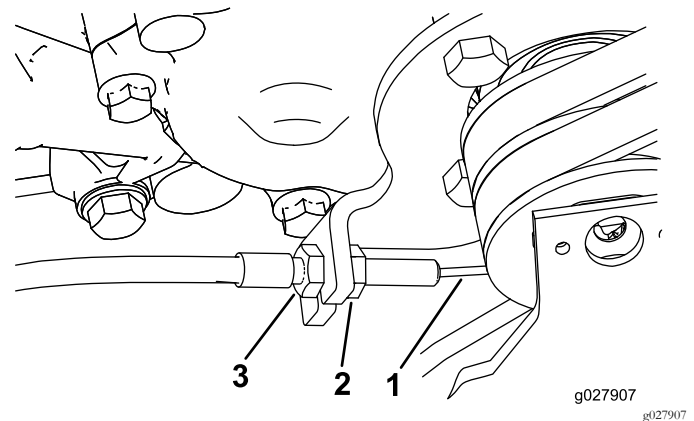

Figure 43
3. To increase the cable tension, loosen the front cable jam nut and tighten the back cable jam nut (Figure 43) until a force of 2.75 to 3.25 kg (6 to 7 lb) to engage the traction control.